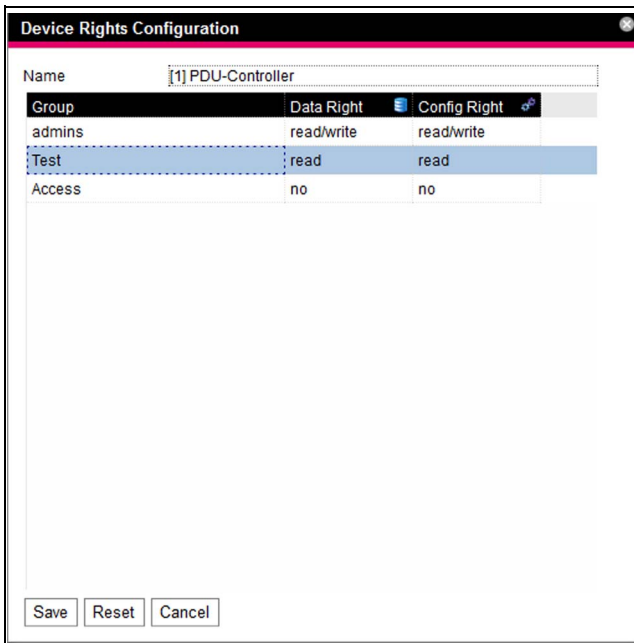

Fig. 36: "Device Rights Configuration" dialogue
- Click on the "Configure Device Rights" symbol (fig. 34) The "Device Rights Configuration" dialogue will appear (fig. 36).
- After the "CMC III PU 19" Edition" entry, select the "Device Rights" symbol (fig. 34). The "Device Rights Configuration" dialogue will appear (fig. 36).
The respective symbols are displayed both when selecting a sensor in the navigation area on the **Configuration** tab and opening it down to the lowest level, as well as in the "Device Rights Configuration" dialogue (fig. 36). The symbols illustrate allocation to the two data types "Data" and "Config".